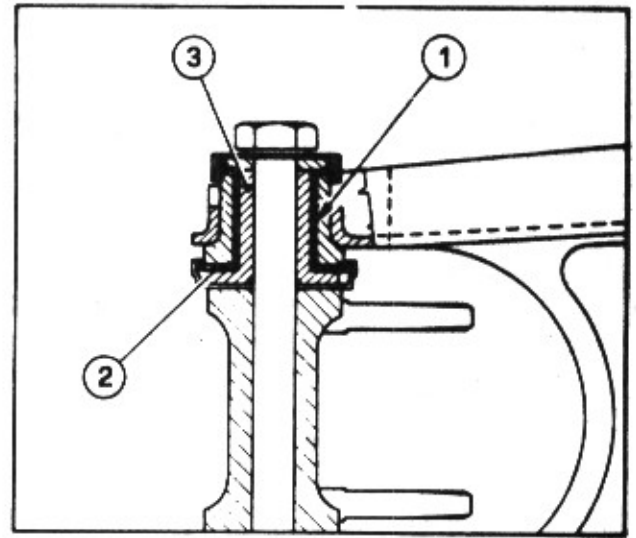

Fig. 71 Side View of Suspension Arm-to-Chassis Attachment Bushings
--Remove internal flexible bushing 1 (fig. 71) of each bearing and press in a new one without damaging the surfaces or greasing or oiling them.